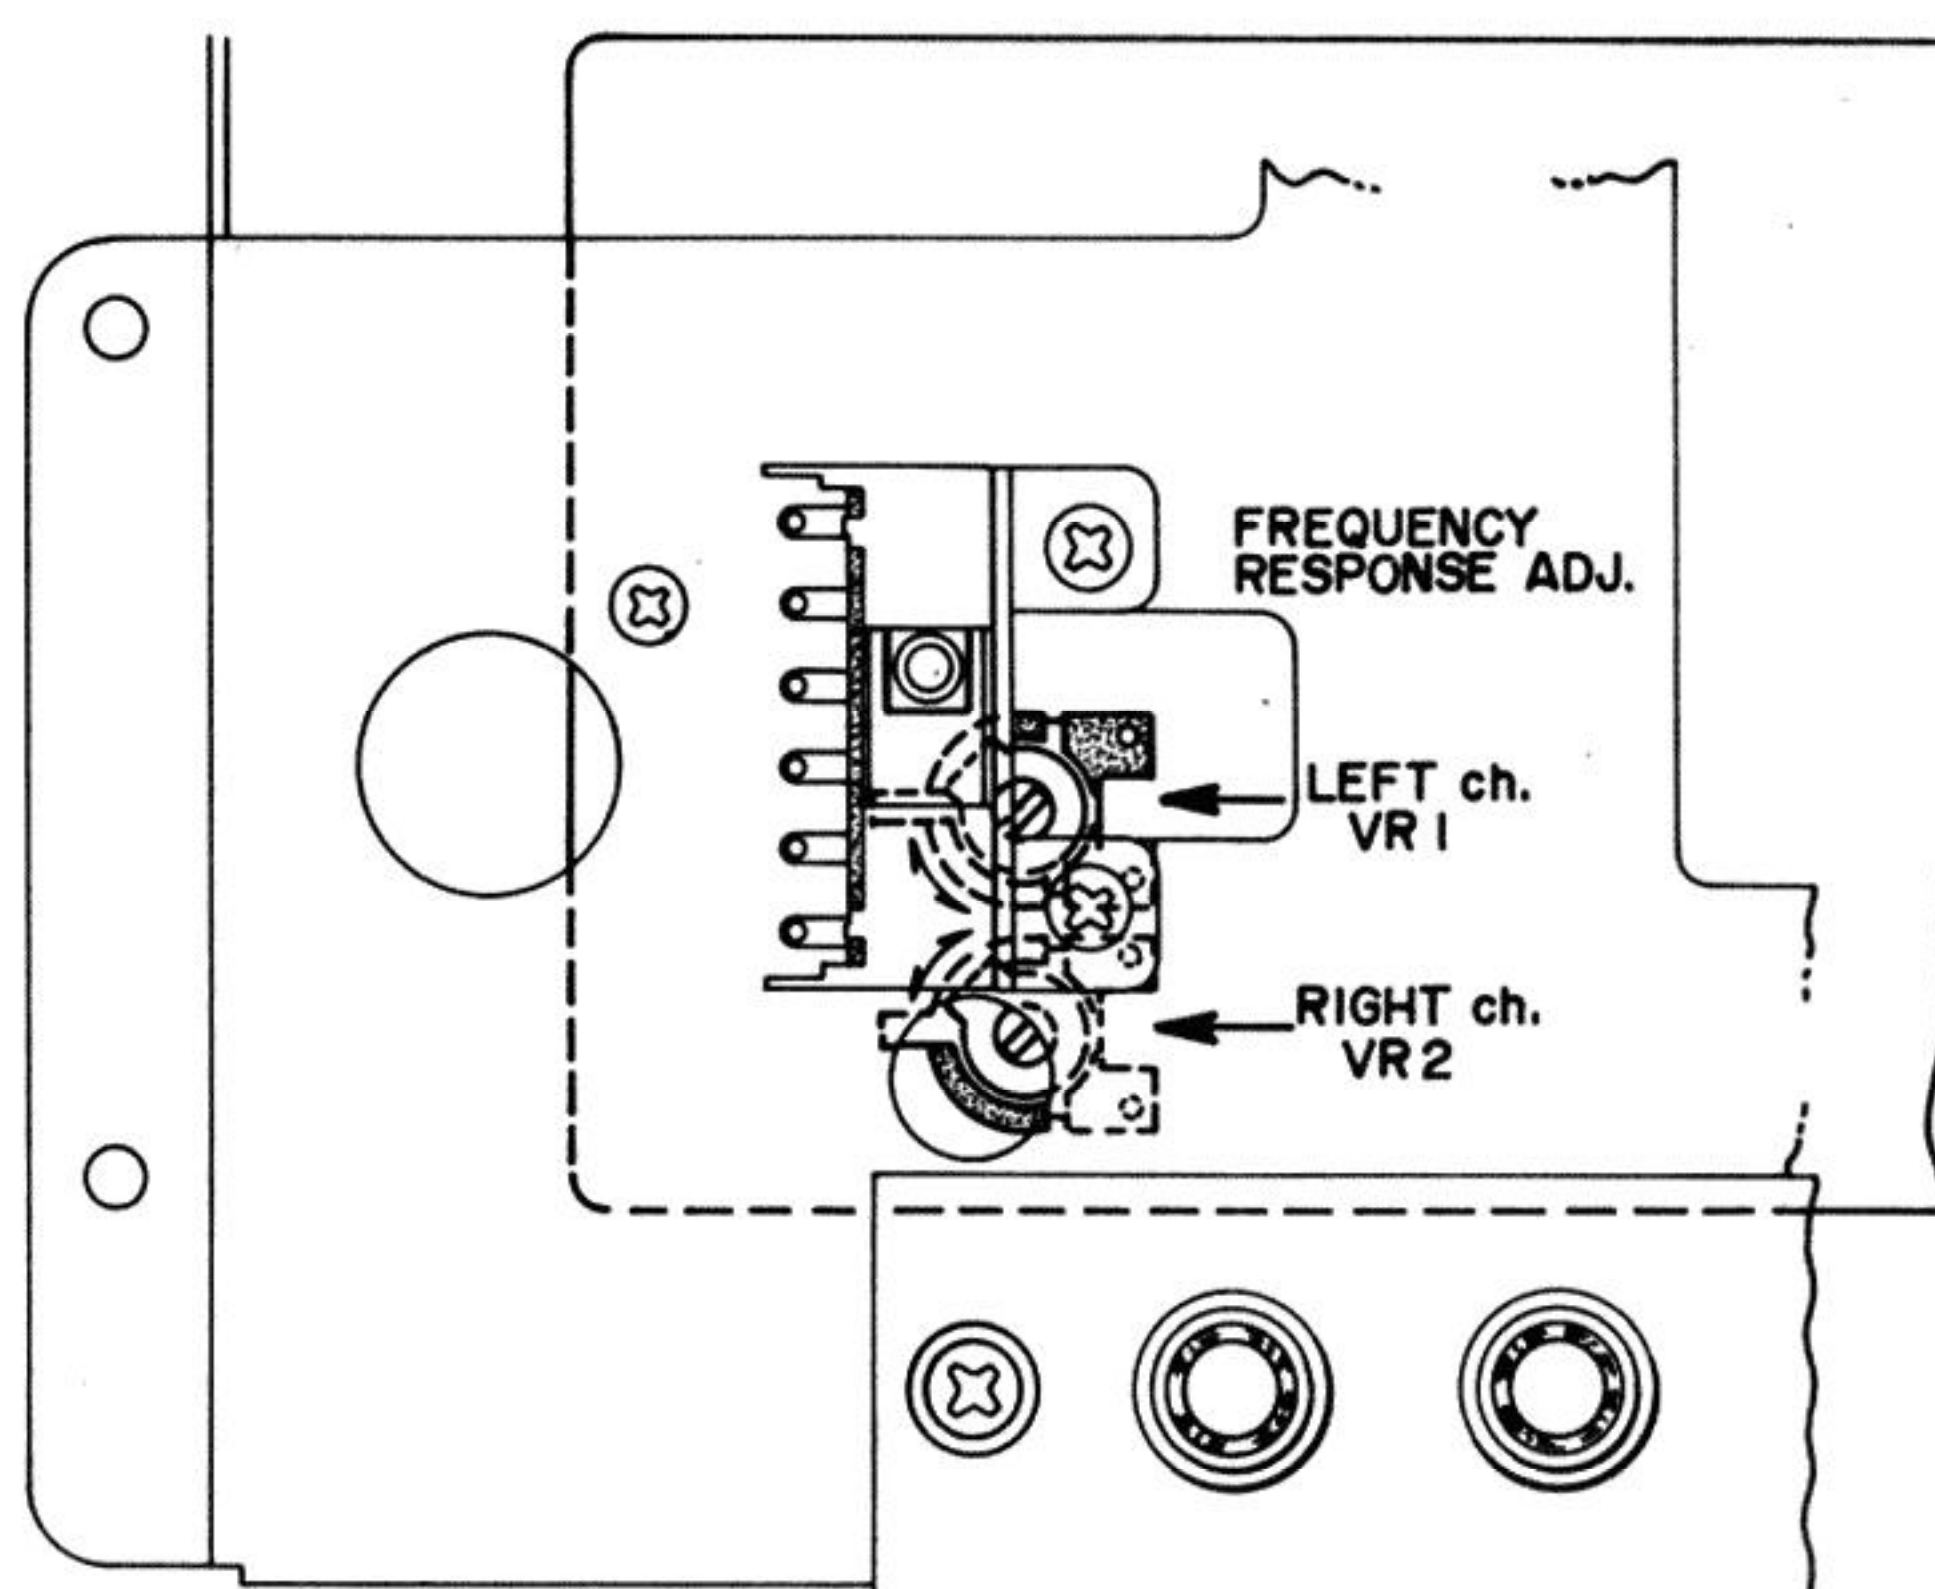

Fig. 15
4. FREQUENCY RESPONSE ADJUSTMENT (See Fig. 15)